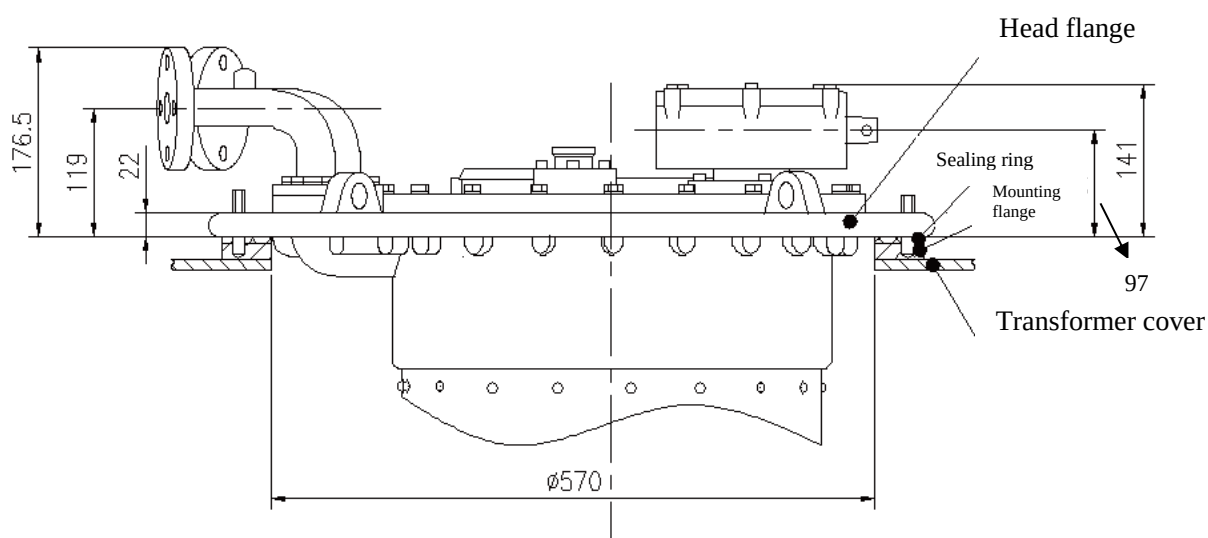

Figure 9 Mounting hole
- 2) Lift the assembled tap-changer to be above the transformer's mounting flange. Carefully place it into the transformer tank through the mounting hole on the transformer cover (Figure 9).